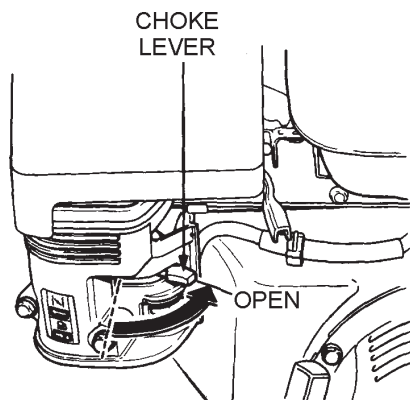

Figure 9. Engine Choke Lever (Open)
3. Place the **choke lever** (Figure 9) in the "OPEN" position if starting a **cold** engine.